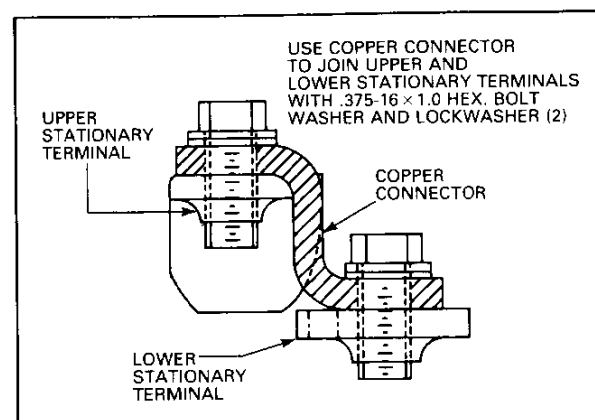

Fig. 4 Connecting Upper and Lower Stationary Terminals
5. Review the illustrations to acquaint yourself with the items and location, especially the right and front side view of the breaker Figs. 4, 5, 6 and 7.
1. Remove the three (3) electro-mechanical trip units.
2. Place the 2.0" x 2.38" x .25" "Z" copper connector over top of the upper stationary and lower stationary terminals, lining up the holes. Secure connector using .375-16 x 1.0 hex bolt, washer and lockwasher. See Fig. 4.
Step 5: Position the $\frac{1}{2}$ " x $1\frac{1}{8}$ " spacer beneath the holes under the actuator. Slide the control relay over so that the holes match those of the spacer. Fasten the actuator, spacer and control relay with the .190 - 32 x 1 field screws and washers. Figs. 4 and 5.